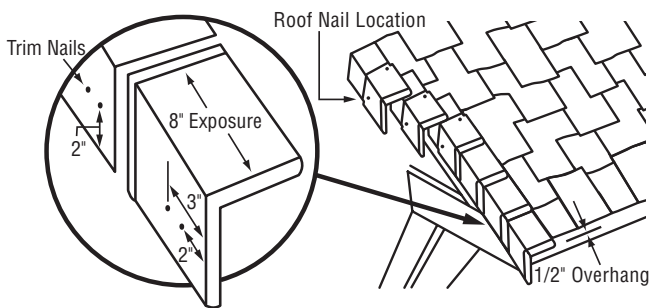

Figure 12-18: Rake edge application
**Rake** – Ensure field shingles at rake edge are flush with the outer edge of the rake board. Apply Mountain Ridge shingles fitting them snugly against the rake board. Use two color-coordinated aluminum trim or paneling nails, to pin the material to the fascia at 2" (50 mm) up from bottom edge and 2" (50 mm) and 3" (75 mm) in from front edge of shingle. (See Figure 12-18)